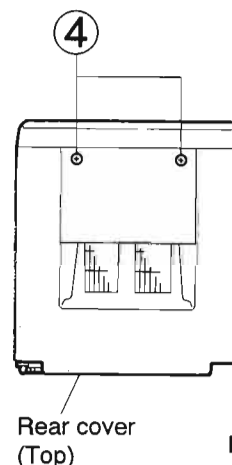

Fig. 5-4
5. Remove the two screws (4) retaining the rear cover from just above the body (Refer to Fig. 5-4).